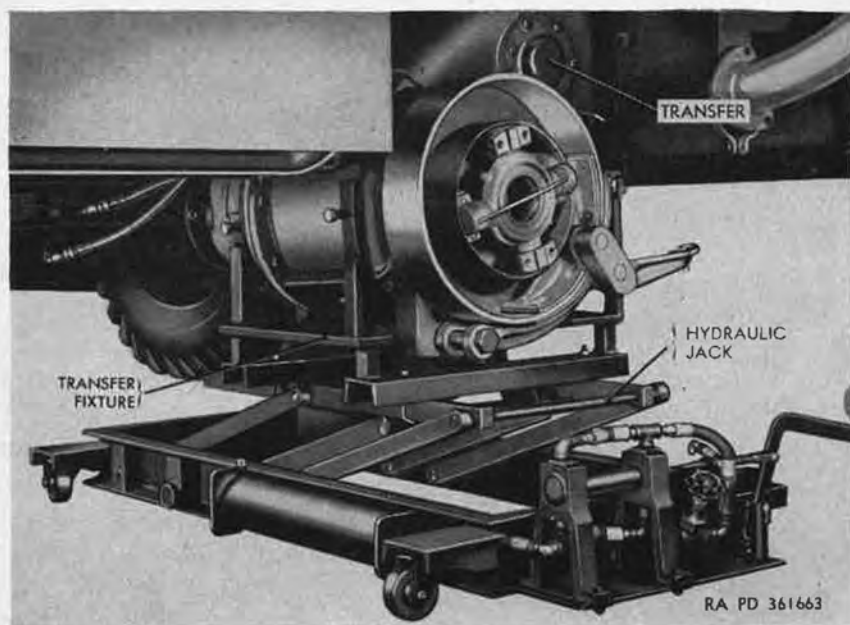

Figure 206. Lowering transfer on hydraulic jack.
- (13) Lower jack to permit removal of transfer from underneath truck (fig. 206).